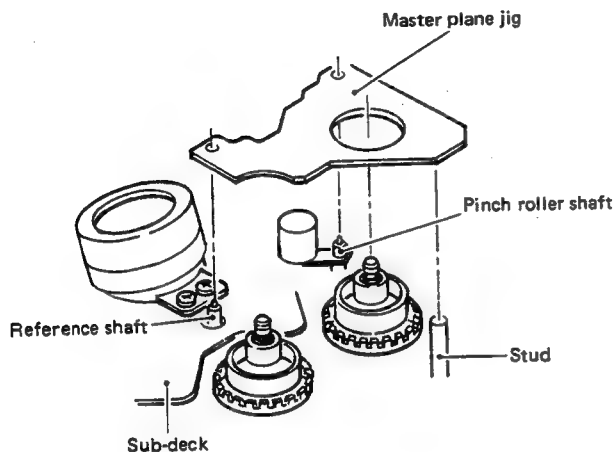

Fig. 2-18 Master plane jig setting
2. As shown in Fig. 2-18, position the master plane jig with respect to the reference shaft, pinch roller shaft and the stud.